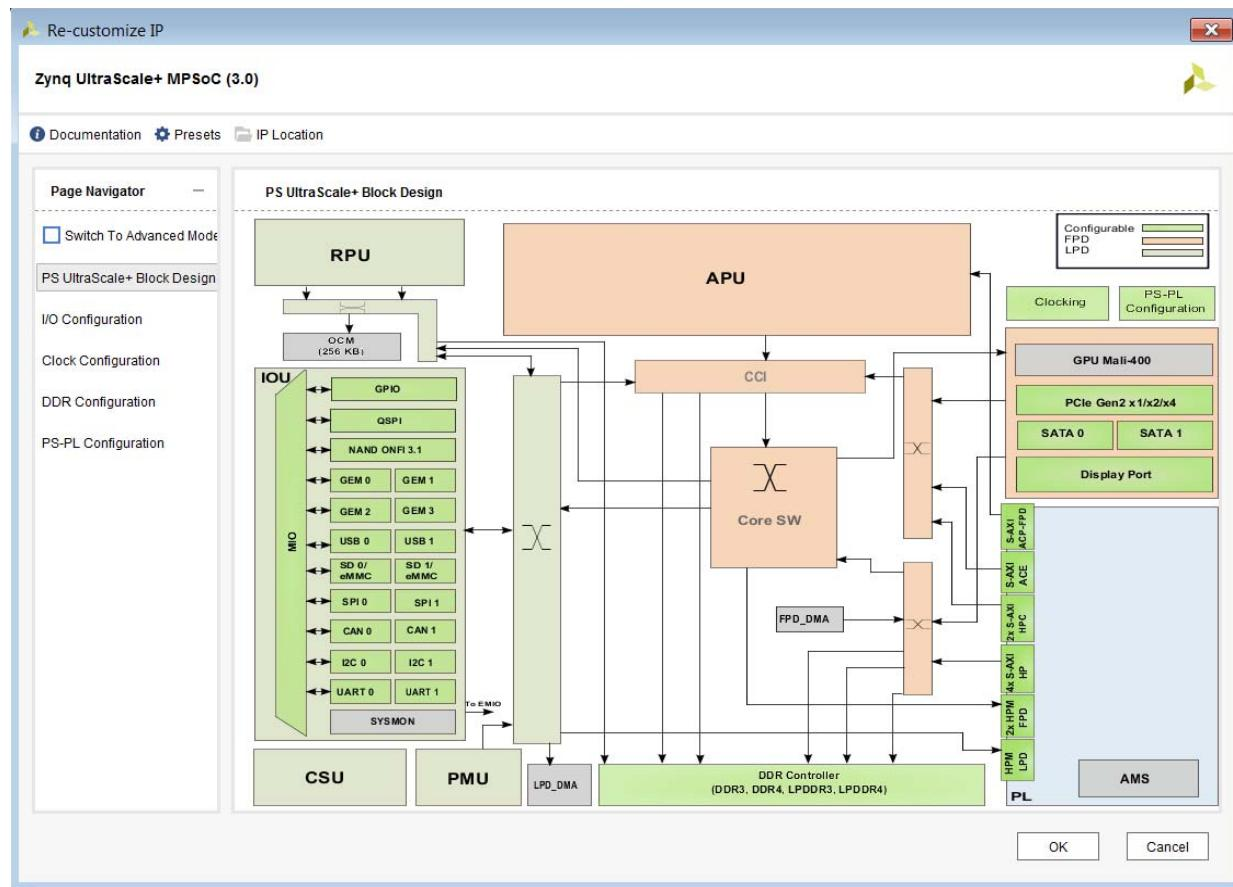

Figure 2-5: ZYNQ UltraScale+ MPSoC Configuration Dialog Box
4. Double-click the processing system graphic to invoke the **Re-customize IP** process, which displays the Re-customize IP for the Zynq UltraScale+ MPSoC dialog box as shown in Figure 2-5.
Alternatively, you can select the options from the Page Navigator on the left, as shown in Figure 2-5.